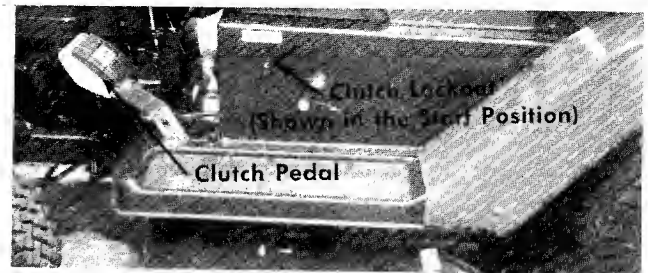

FIGURE 10. LEFT HAND CONTROLS
- e. **Clutch Pedal.** The clutch pedal is used to disengage the drive mechanism. Depressing the clutch pedal at any time will reduce mower speed. If depressed all the way, it will stop the mower. See figure 10.
Step 2. Place the clutch lockout in the START position. See figure 10.